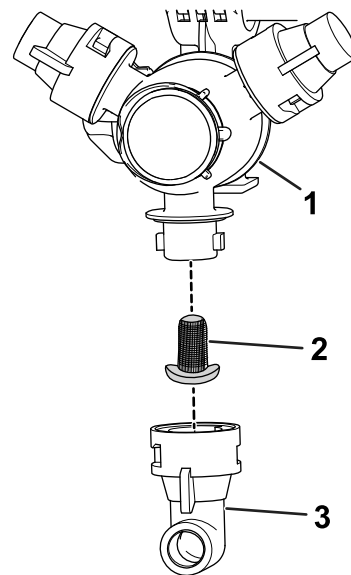

Figure 58
2. Remove the nozzle from the spray turret (Figure 58).
3. Remove the old nozzle filter (Figure 58).
4. Install the new nozzle filter (Figure 58).
5. Install the nozzle onto the spray turret (Figure 58).